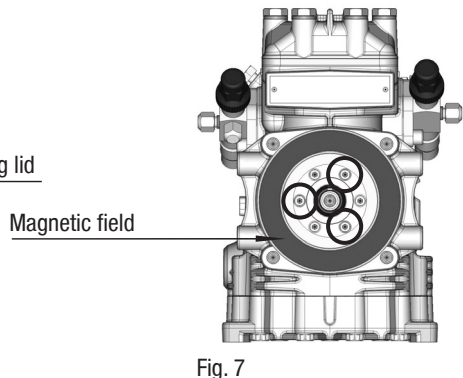

Fig. 7
- To connect the magnetic field, remove the marked Allen head screws of the sliding ring lid (see Fig. 7).
- Slide the magnetic field to a snug-fit and fasten using the three M5 x 20 cheese head screws provided (Fig. 7). Screw torque = 9 Nm.